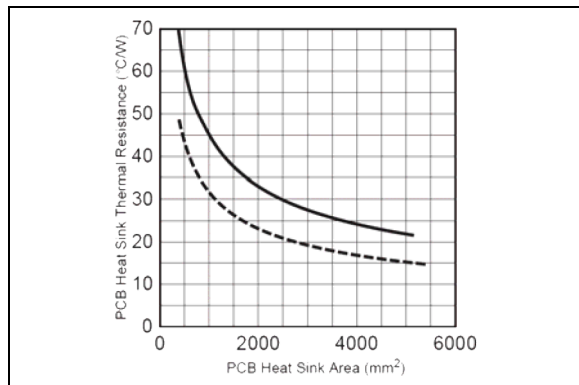

FIGURE 5-4: Excerpt from the LDO Book.
- $R_{\theta_{CA}} = 53^\circ C/W$ (read from Figure 5-4)